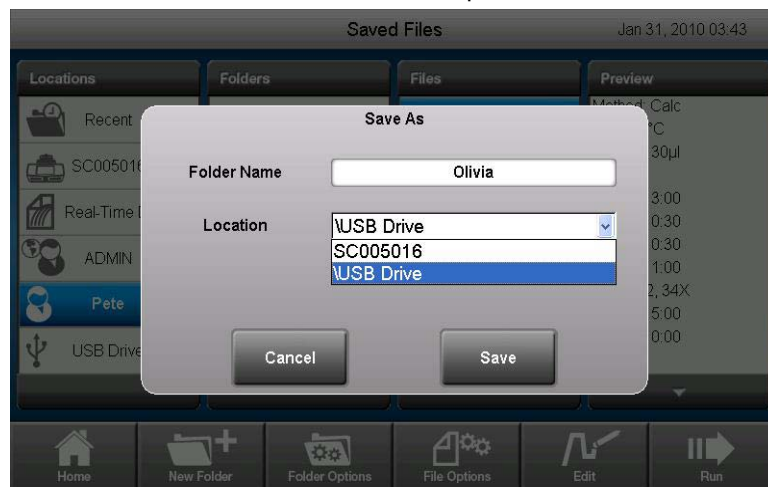

Figure 29. New location for copied folder.
6. Select a new destination from the **Location** dropdown list as shown in Figure 29.